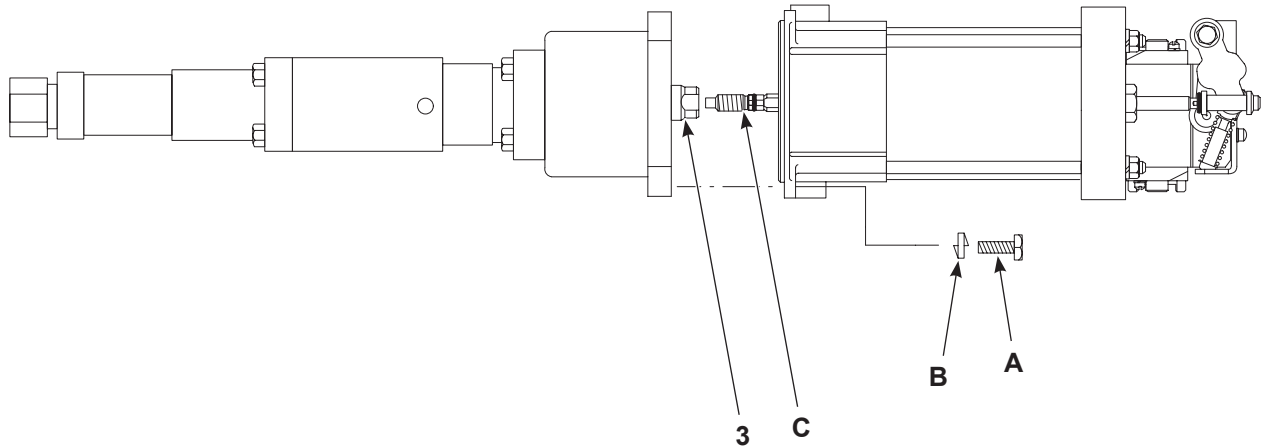

Figure 7-1 Separating the Air Motor and Hydraulic Section (Aluminum Hydraulic Section Shown)
1. See Figure 7-1. Remove the four screws (A) and lockwashers (B).
3. Use two wrenches to unscrew the connecting rod (C) from the plunger (3).
See Figure 7-1 on page 7-2.